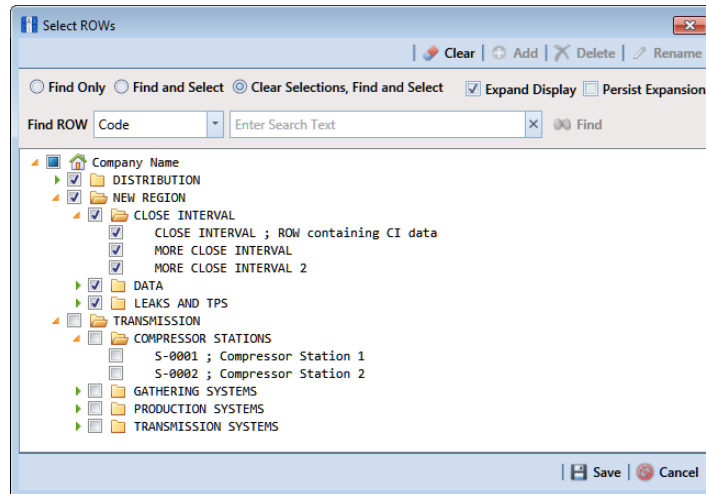

Figure 3-69. Select ROWs
- 1 Click the **Select ROWs** button  to open the *Select ROWs* window (Figure 3-69). Select one or more pipeline segments with facilities you want to work with, then click  **Save** to close the window.